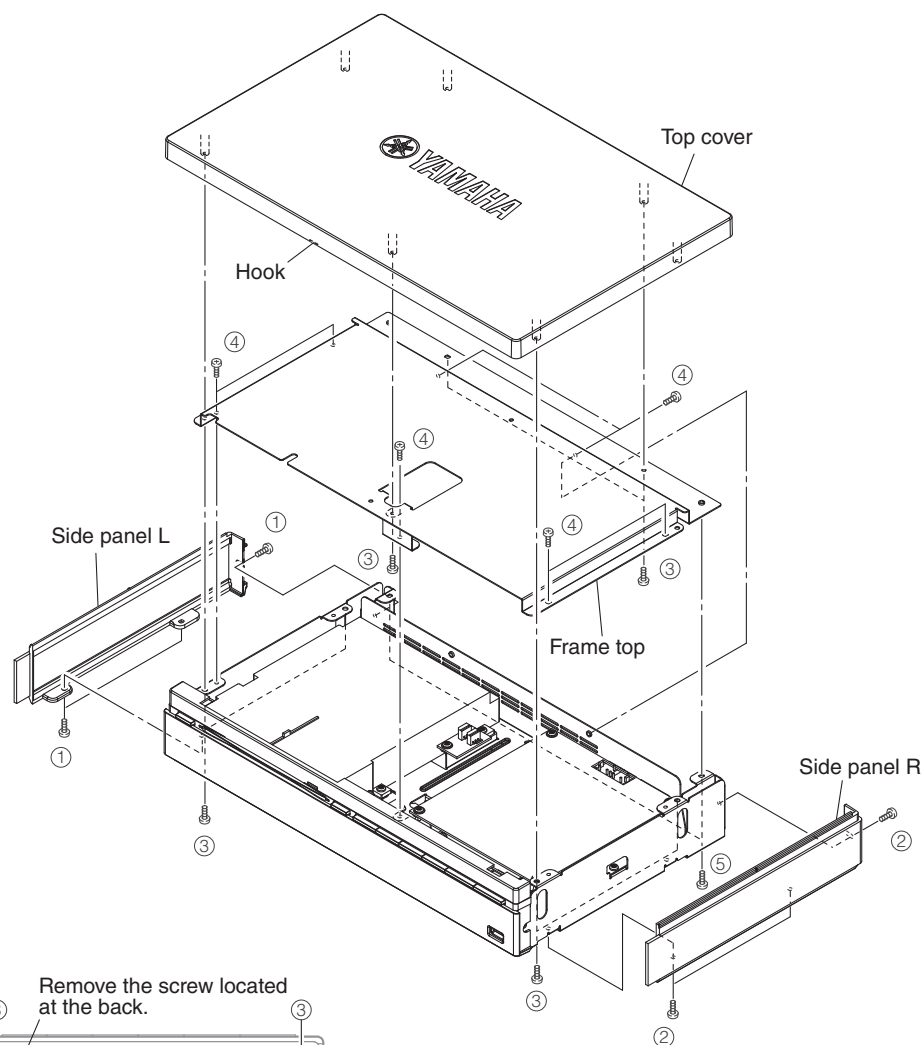

Fig. 1
- Remove 3 screws (②). Remove the side panel R. (Fig. 1)
- Release a hook. Remove the top cover. (Fig. 1)
- Remove 7 screws (④). (Fig. 1)
- Remove the frame top. (Fig. 1)